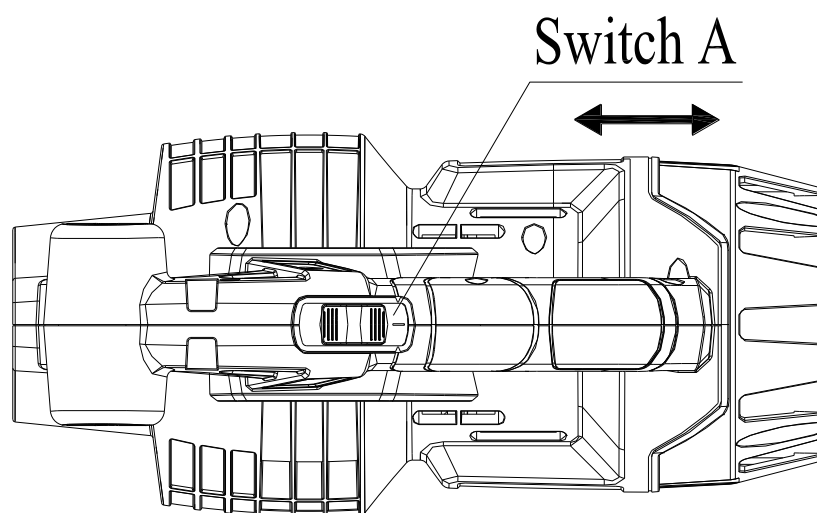

fig.6
- **I stands for low speed** (fig.6)